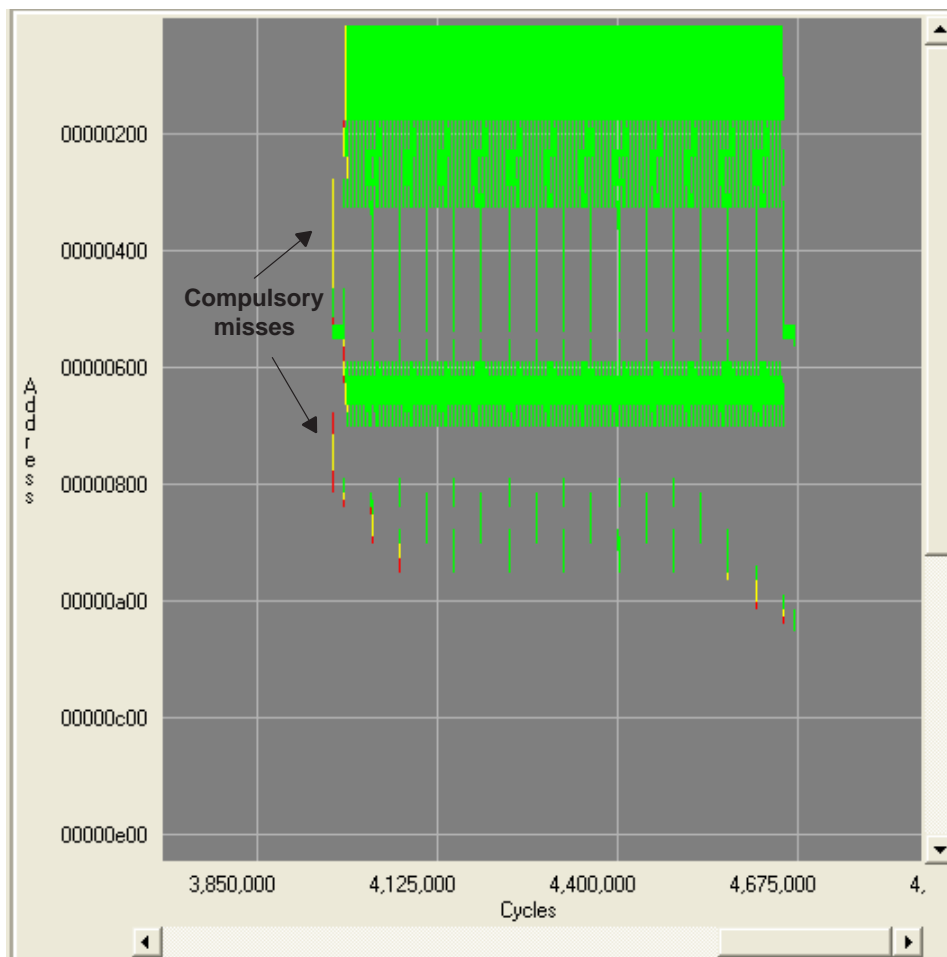

Figure 23. Program Cache After Optimization
4. Within CacheTune, select the program cache tab; then click the Full Zoom button . Figure 23 gives the display of program cache after the optimization.